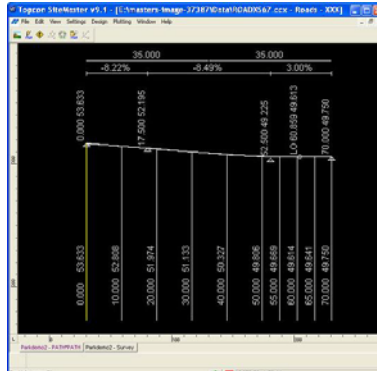
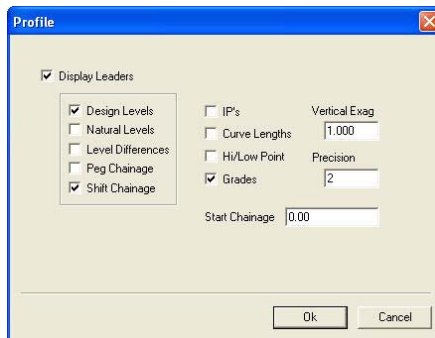

Figure 13-70. Profile Editor
Figure 13-71. Profile Dialog Box
Use the Profile Editor command to modify the intersection points (IP) and curve data relating to the vertical profile design lines. You can also create plots from the Plotting menu (Figure 13-70 on page 13-61).
The *profiles* dialog box appears (Figure 13-71).
3. Click the **Hot Button**  (Figure 13-70 on page 13-61) to open the *Profile* dialog box (Figure 13-71). This window lets you control the display of data on the screen.